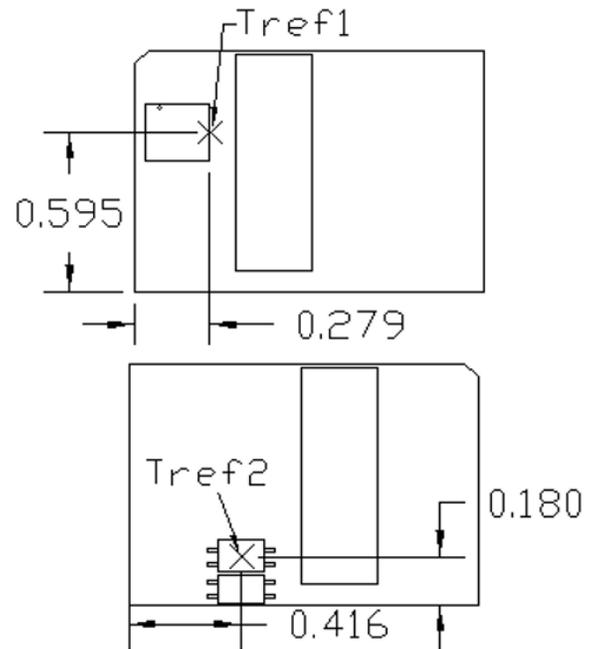

Figure 13. T_{ref} Temperature Measurement Locations for Open Frame Module.
To provide protection under certain fault conditions, the unit is equipped with a thermal shutdown circuit. The unit will shutdown if the thermal reference point T_{ref} (Figure 13), exceeds 125°C (typical), but the thermal shutdown is not intended as a guarantee that the unit will survive temperatures beyond its rating. The module can be restarted by cycling the dc input power for at least one second or by toggling the remote on/off signal for at least one second. If the auto-restart option (4) is ordered, the module will automatically restart upon cool-down to a safe temperature.
The thermal reference point, used in the specifications is shown in Figure 13. For reliable operation this temperature T_{ref1} should not exceed 124.1°C and T_{ref2} should not exceed 110°C.